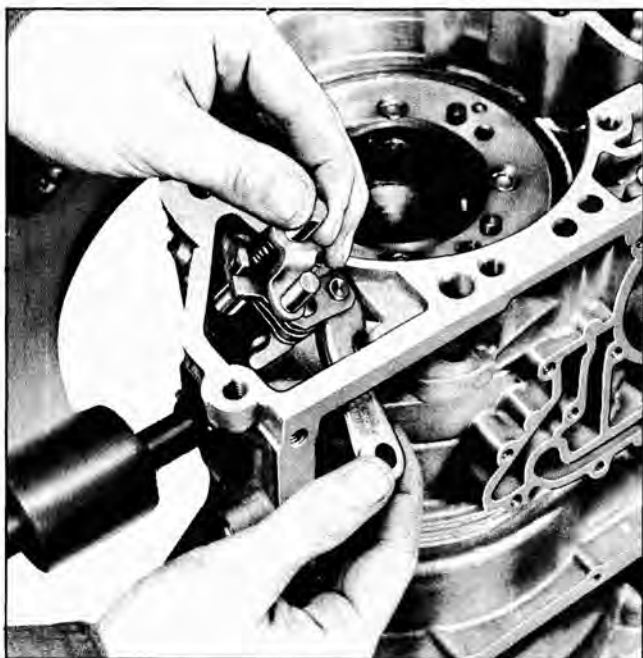

Fig. 123 Installing Parking Linkage in Case
2. Install parking assembly, parking pawl first, through hole in rear of case so that pawl tooth faces inside of case (Fig. 123).